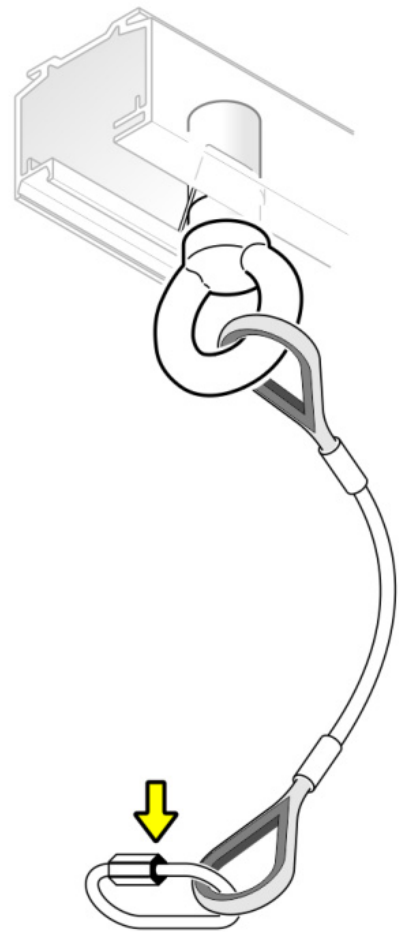

Figure 9. Carabiner clip
5. See Figure 9. Attach the free end of the safety cable to the safety cable anchoring point in the luminaire's baseplate using the lockable carabiner clip (arrowed in Figure 9) on the end of the safety cable. Fasten the lock on the carabiner clip so that the safety cable cannot become unfastened from the luminaire.